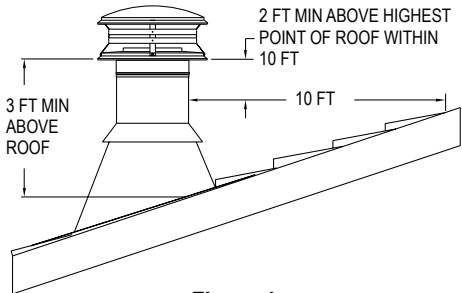
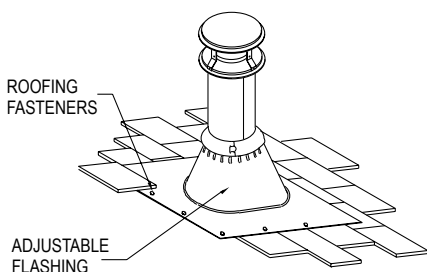
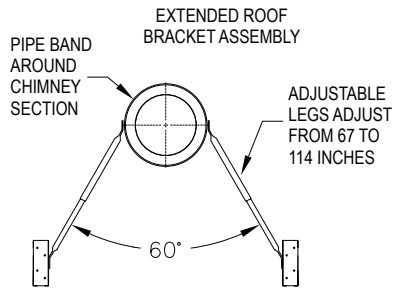

Figure 1
Figure 12
Figure 16
The National Fire Protection Association Standard #211 states: "Chimneys shall extend at least three feet above the highest point where it passes through the roof of a building, and at least two feet higher than any portion of a building within ten feet." (**Fig 1**) DuraTech Chimney may be installed up to 60 feet high. If the chimney extends more than 5 feet above the roof, an Extended Roof Bracket must be
chimney above the roof. Allow space to permit sliding the next Chimney Section up through the Flashing. Always insure the chimney remains vertical (use a level), and that at least a 2-inch clearance to combustible materials is maintained all around. Install the upper edge of the Flashing under the roofing. Nail to the roof along the upper edge and down each side with 1-inch roofing nails. Do not nail the lower edge of the Flashing (**Fig 12**). Seal top and upper sides of flashing with roofing compound or sealant. Be sure to follow local building practices, as needed. Seal all nail heads with a non-hardening waterproof sealant. On flat or tarred and graveled roofs, nail and seal the Flat Roof Flashing to the roof on all sides with roofing compound. Do not put screws through the Flashing into the Chimney Pipe.
10. Finish Top: Apply a high-temperature (500°F), non-hardening waterproof sealant around the chimney at the point where the Storm Collar will meet the chimney just above the Flashing. (**Figures 12 and 13**). Slide the Storm Collar down over the chimney to the top of the Flashing. Tighten and seal the Storm Collar against the sealant. After installing sufficient Chimney Sections to meet the height requirement (**Fig 1**), attach the Chimney Cap onto the top of the chimney by holding the collar of the cap and twist locking it clockwise onto the chimney. Do not hold upper portion of the cap and twist, as this may damage the cap. The Chimney Cap can be removed for chimney cleaning as described in the Chimney Maintenance section of the instructions. Use an Extended Roof Bracket if the chimney extends more than 5 feet above the roof. (**Figures 16 & 17 in the Extended Roof Bracket section**). If you are located in heavy snow country, it is recommended that a "splitter" be installed, and should be fabricated from heavy gauge sheet metal (**Fig**
2. Attach the Legs: The Adjustable Legs of the assembly will adjust from 67" to 114". Secure one end of each Leg to the Pipe Band using the nuts and bolts included (2 per Leg). Position the Adjustable legs so they form approximately a 60° angle with the chimney, and with each other (**Figures 16 and 17**). Be sure that there is at least 3" of overlap between the top and bottom halves of the Adjustable Leg. In order to secure Legs in proper position, there is a hole provided in the outer leg where the outer and inner halves overlap. Use a 1/4" drill bit to drill through the inner leg at that location. Use the nut & bolt provided to pin the Adjustable Legs in position.
3. Install Roof Brackets: Mount the two Roof Brackets where each of the Adjustable Legs meets the roof, using (6) 1" roofing nails per bracket. Seal the nail heads carefully with a non-hardening, waterproof sealant. Attach the bottom end of the Adjustable Legs to the Roof Brackets using the nuts & bolts provided.